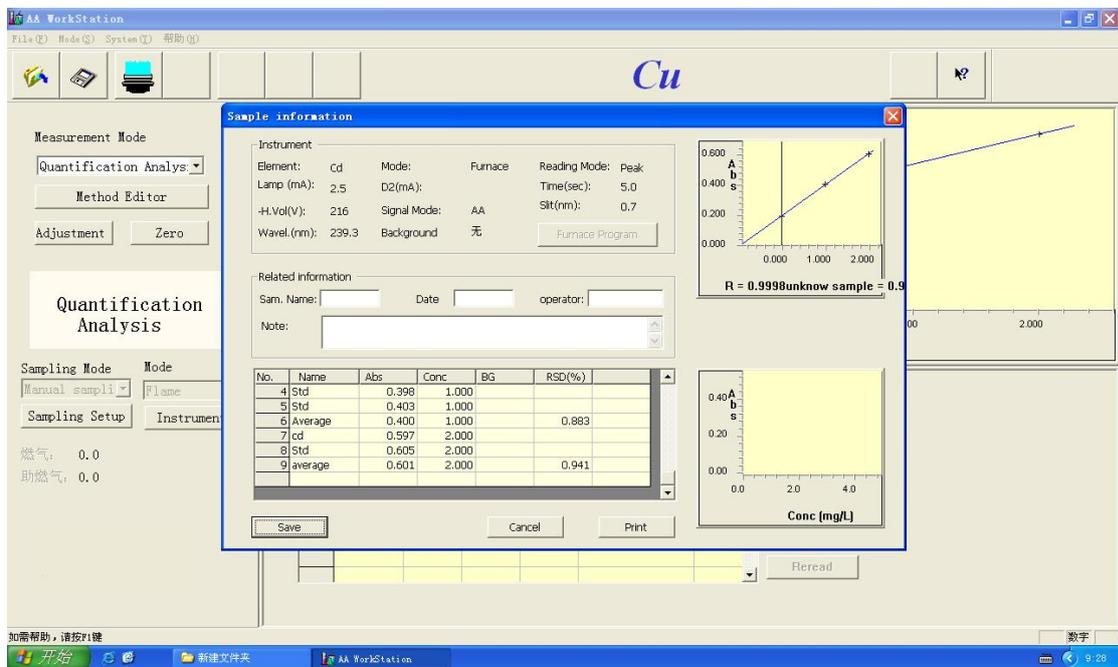

Figure 6-4
3. Press “Open” get the data has been saved, as shown in Figure 6-4, then can print it